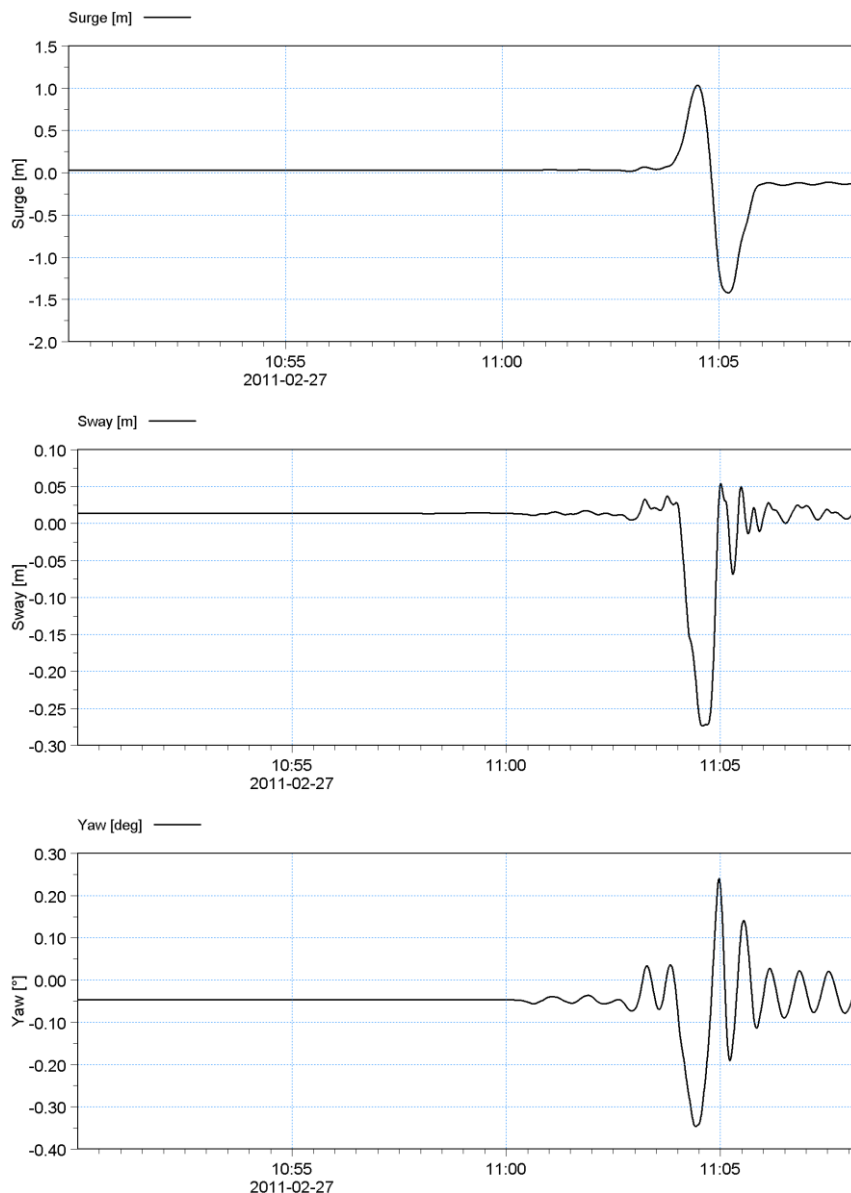

Figure 3-24 Passing vessel induced moored vessel motions - surge, sway and yaw
14. Open the newly created *Vessel1\_motions.dfs0* file and plot the *Surge*, *Sway* and *Yaw motions*. You should see that the vessel is stable until around 11:05 when the passing vessel generated displacement waves arrive at the berth and induce a large surge motion of the moored vessel. Motions in the other degrees of freedom are relatively small. Your plotted surge, sway and yaw motions should appear as shown in Figure 3-24.